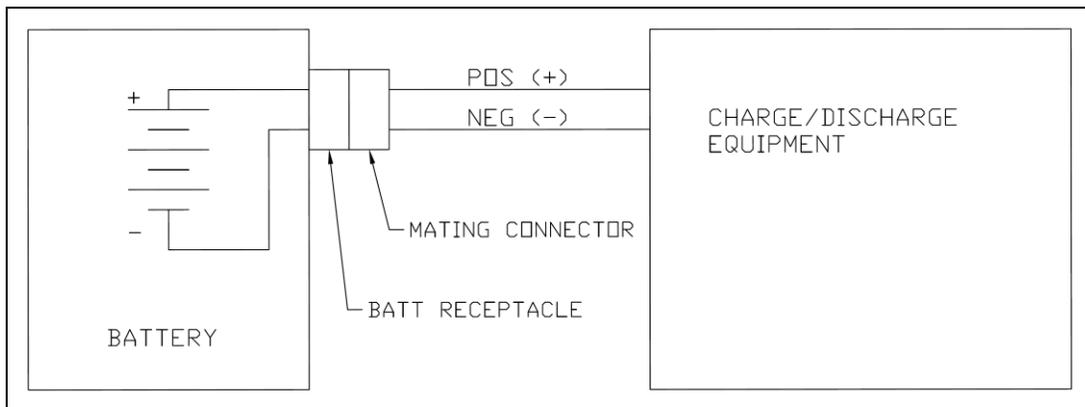

Figure 101. Test Set Up for RG Series Main Batteries with Receptacles
- A. Refer to Figure 101 or 102 for a schematic of the test set up.